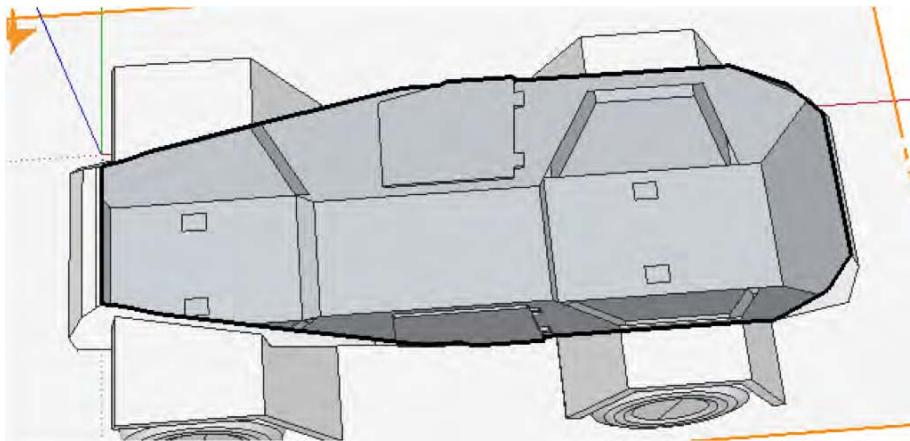

Figure 8-34. Section plane cut to delete the internal surface created between the axle and body
6. Select Window ▶ Section Plane. Create a section plane cut through the model, and delete the surfaces created by the intersection of the axle and body of the model (Figure 8-34).